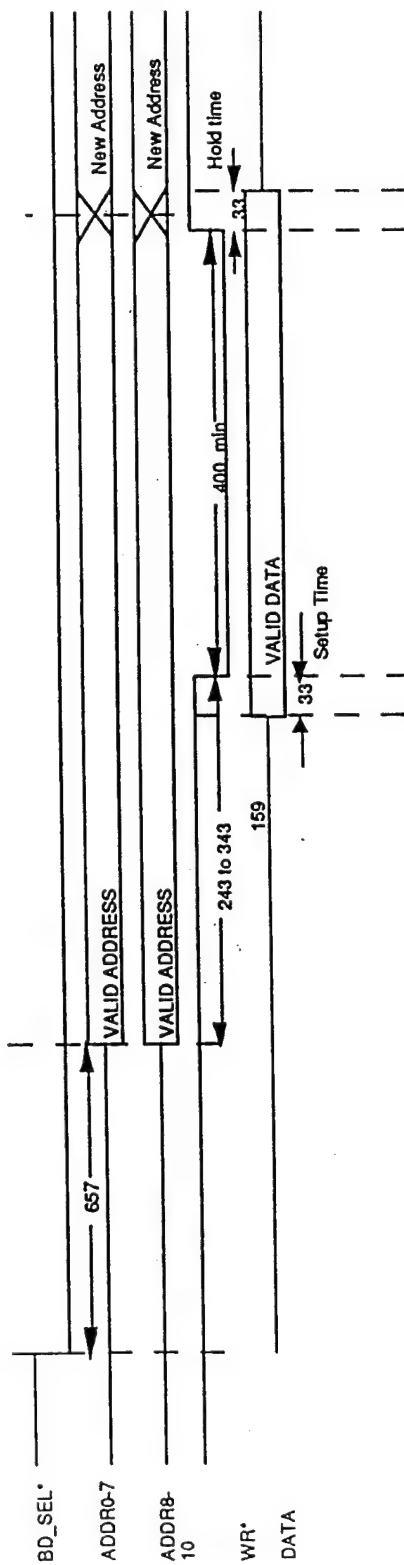

FIGURE 12 - Write Cycle Timing
3.3.2 WR*. An 8051 external data write cycle. The 8051 is running at 12 Mhz. Write cycle timing is shown in Figure 12.